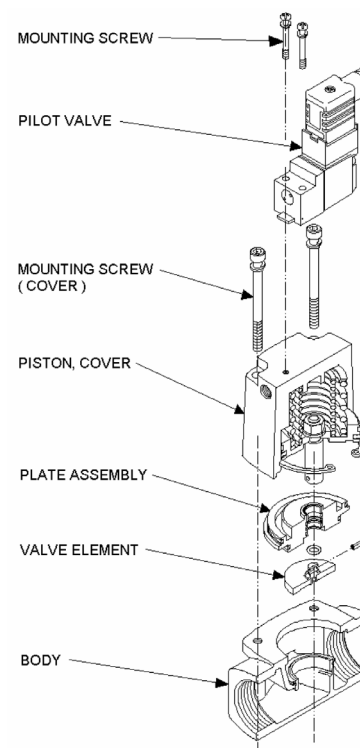

Fig. 6
**Replacing Pilot Valve Assembly (see Fig. 6)**
**Replacing Plate Assembly and valve element (see Fig. 6)**